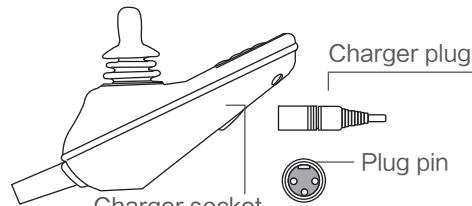

Figure 17
- ▶ Insert the output plug of the charger into the lower slot of the controller, see Figure 17.